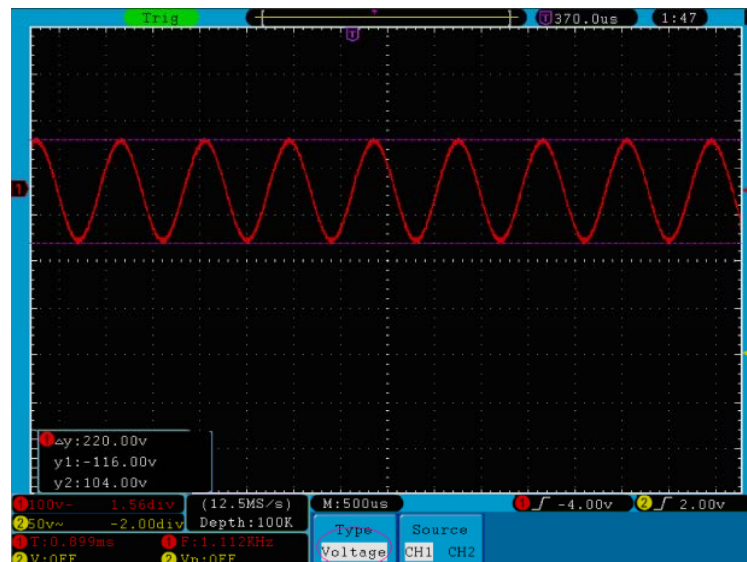

Fig. 72 Waveform of Voltage Cursor Measurement
4. According to the measured waveform, adjust the positions of Cursor1 and Cursor2 by turning the **VERTICAL POSITION** knob of CH1 and CH2. Cursor increment window at the left bottom of waveform shows absolute value of D-value of cursor 1 and cursor 2 and the present position of the two cursors. (see **Fig. 72**).